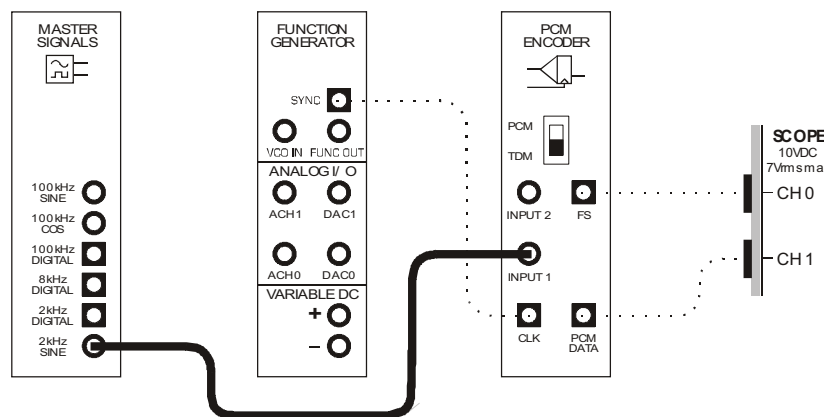

Figure 11
36. Modify the set-up as shown in Figure 11 below.